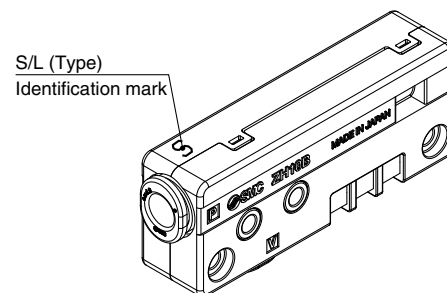

Fig. 12
2. For the box type, a different identification mark symbol is used according to the vacuum pressure reached (type S or type L). (Fig. 12)